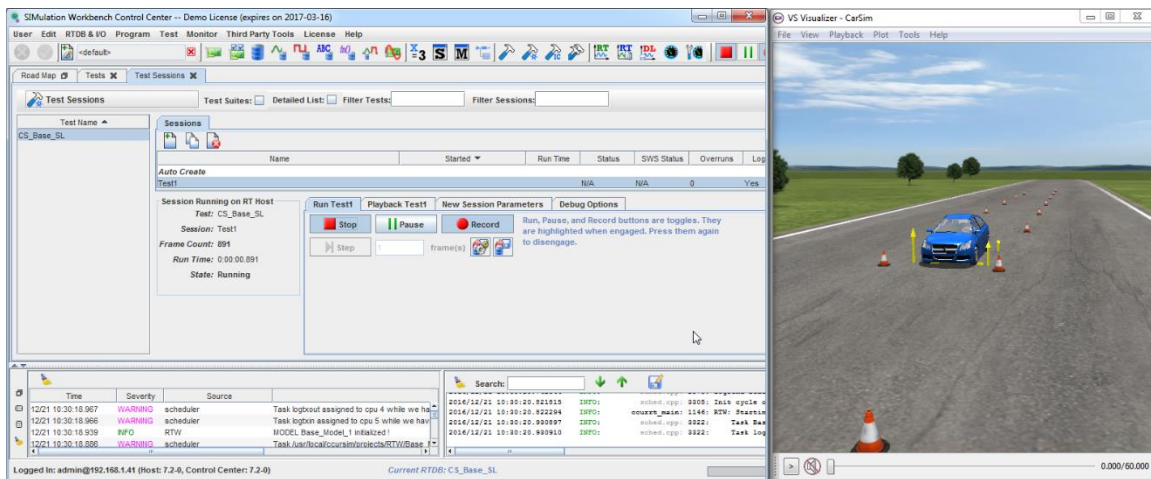

Figure 19. Simulation Running.
2. Go back to Simulation Workbench Control Center, still in the Test Session tab, press the play button to run the simulation (Figure 19).